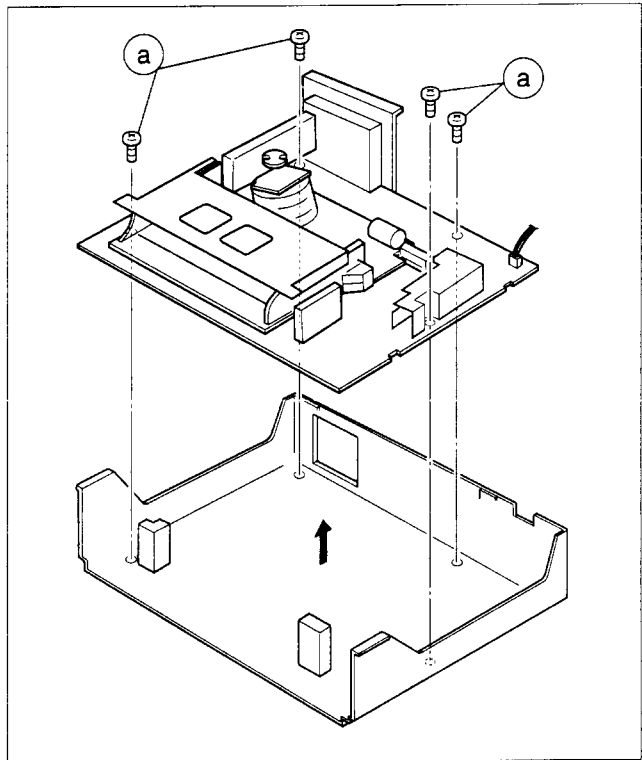

Fig. 1-5-2
- (3) Take out 4 screws (a).
- (4) Remove the Mechanism assembly (including Cassette housing) and Main board assembly out of the chassis as shown in Fig. 1-5-2.